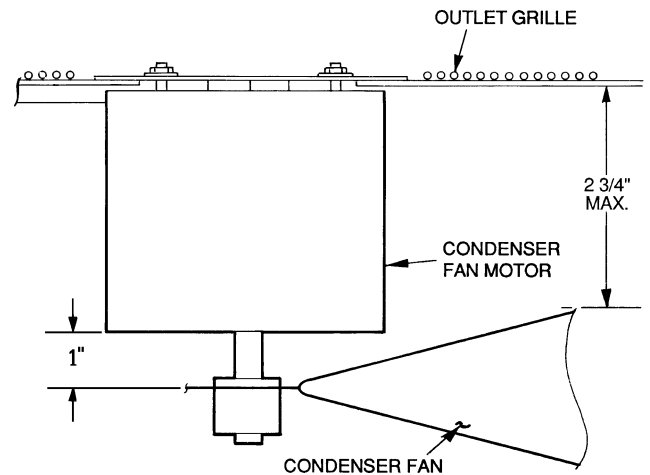

Fig. 42 — Condenser Fan Adjustment
Condenser-Fan Adjustment (Fig. 42)
4. Adjust fan height as shown in Fig. 42.